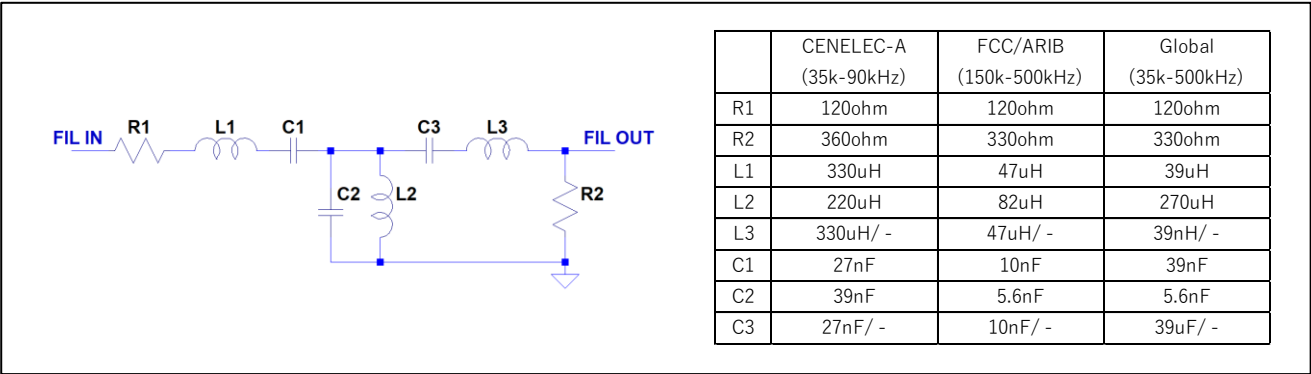

Figure 3-7 Configuration of RX-BPF and the circuit constant
- RX-BPF is used to suppress the noise which is outside the signal frequency band. Select the RX-BPF circuit constants for the frequency band used as shown in Figure 3-7. If you are considering a frequency band other than CENELEC-A and FCC/ARIB, please select Global (35k-500kHz) RX-BPF. (Please contact us if you would like the RX-BPF constants for frequency bands other than CENELEC-A and FCC/ARIB.)